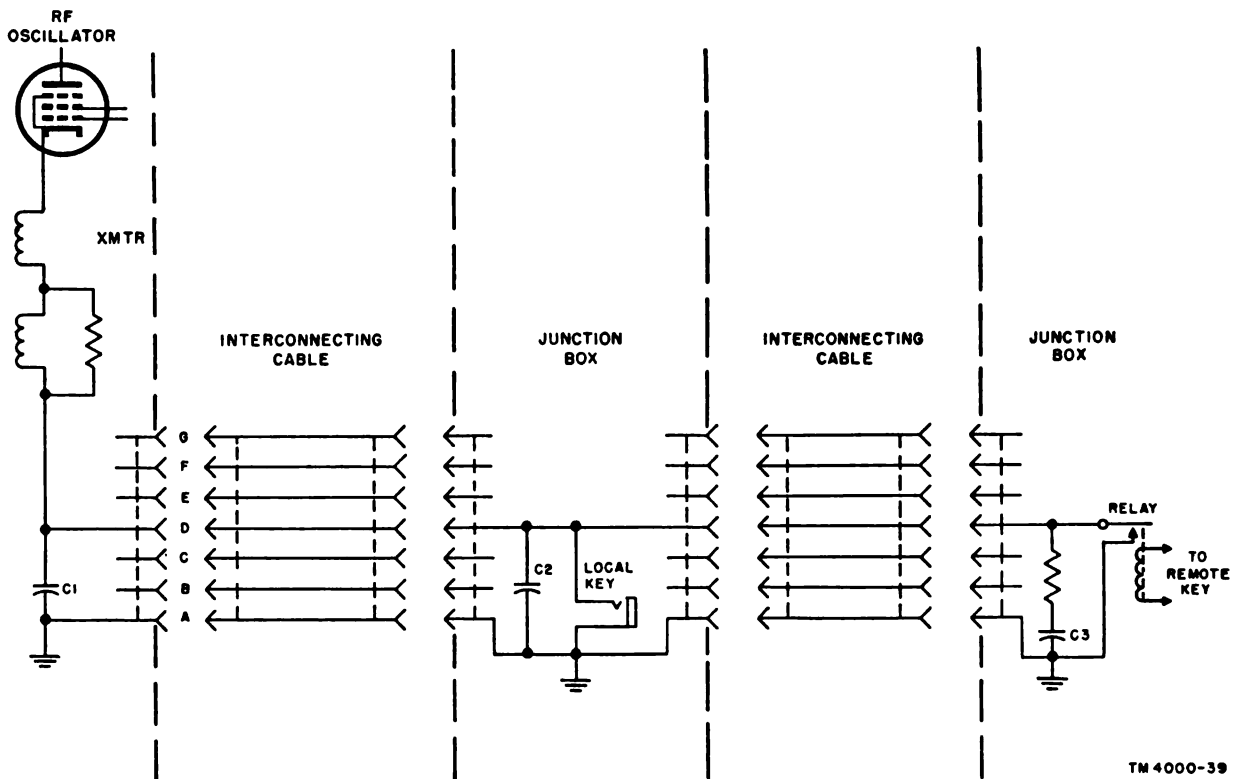

Figure 44. Transmitter keying circuit.
c. Testing for Leaks. As with the short tests, test for leakage between conductors and from conductors to the shields. Where the leak is a high resistance, the voltage supplied by the ohmmeter may not be sufficient to force current through it, and the meter would indicate that there is no leak; it will read infinite resistance and a megger must be used. A megger is a form of ohmmeter that uses several hundred volts to operate it; this voltage is usually supplied by a built-in, hand-operated generator. As with the short tests, test each conductor for leakage to the metal shield. The leakage resistance between any two conductors in a cable should be at least 100 megohms. An example of a cabling system in a keying circuit is shown in figure 44.